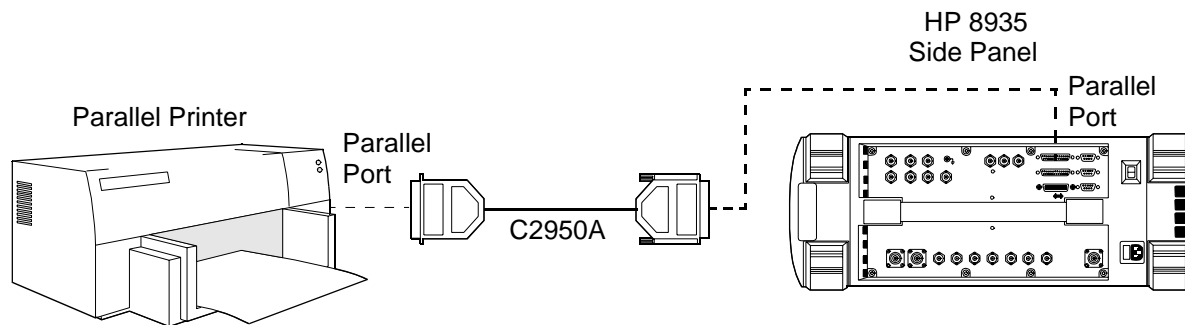

Figure 30 Test Set to Parallel Printer Connection
5. Connect the parallel printer to the Test Set's PARALLEL 15 port (see figure 30).